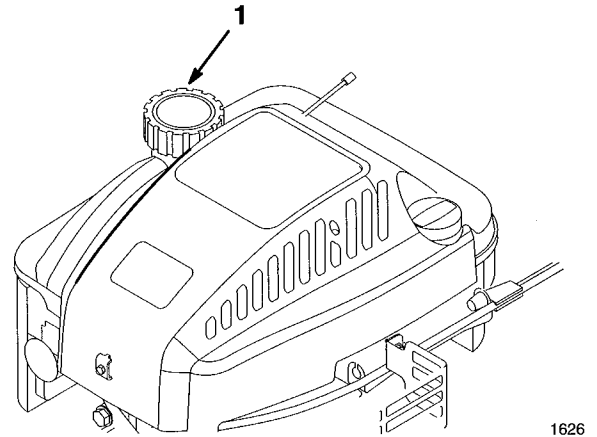

**Figure 36**
3. Remove spark plug (Fig. 36) and spin engine rapidly using starter to blow excess oil from the cylinder. Clean spark plug or replace if cracked, broken or electrodes are worn.
8. Reconnect spark plug wire (Fig. 36).